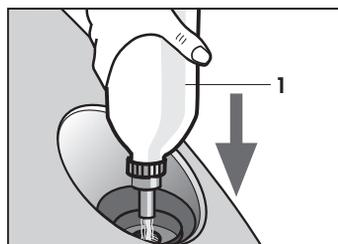

Fig. 5
- Pour tap or demineralised water into the boiler, using the fill bottle provided (1) (Fig. 5).